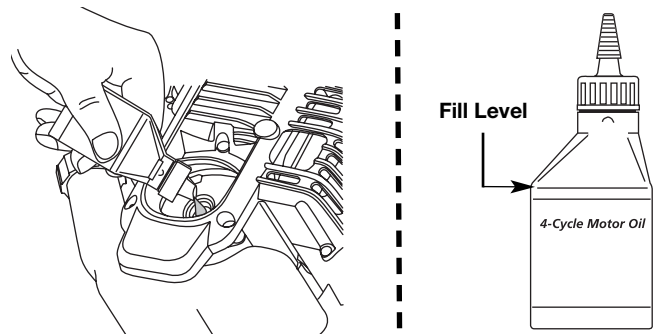

Fig. 21
6. If the oil level is not touching the inner most thread on the oil fill hole, add a small amount of oil to the oil fill hole and recheck (Fig. 21). Repeat this procedure until the oil level reaches the inner most thread on the oil fill hole.
NOTE: Use the bottle and spout saved from initial use to measure the correct amount of oil. The top of the label on the bottle measures approximately 3.04 ounces (90 ml) (Fig. 21). Check the level, See *Checking the Oil Level*. If the level is low, add a small amount of oil and recheck. Do not overfill (Fig. 21).